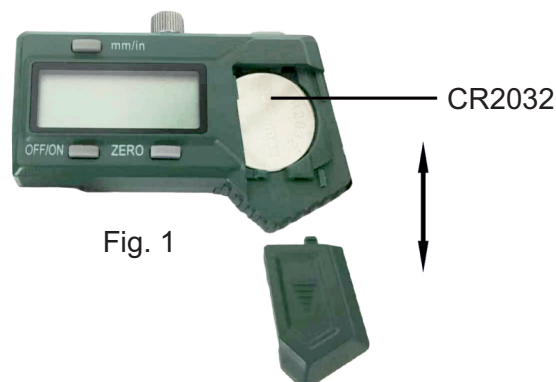

Fig. 1
- » Remove the battery cover and insert a CR2032 battery with the positive side (+) facing out (see Fig. 1). Replace the battery cover.